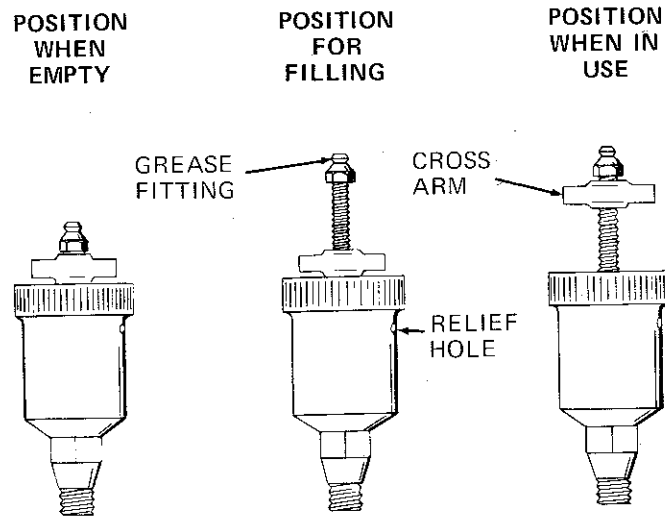

Figure 3. Automatic Lubricating Grease Cup
Before removing the seal assembly, turn the cross arm on the seal grease cup (20) clockwise until it rests against the cover (see figure 3). This will prevent the grease in the cup from escaping after the seal is removed.
Before starting the pump, fill the grease cup through the grease fitting with a good grade of No. 2 pressure gun grease until grease escapes from the relief hole. Turn the grease cup arm counterclockwise until it is at the top of the stem; this will release the spring to apply grease to the seal (see figure 3).